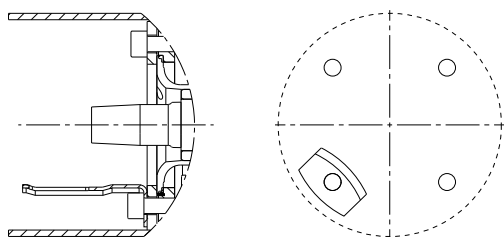

Fig. 13 Bracket for 7.5 kN thrust bearing
4. Fit the upthrust ring, pos. 2a, on the D-end of the rotor, pos. 2.
6. Tighten the two screws, pos. 22, holding the bracket. By doing so, the rotor is being pushed back but the upthrust ring will stay fixed in the correct position inside the stator housing.
8. Insert the radial bearing, pos. 4, into the stator housing.
9. Insert the clamping flange, pos. 7a. Make sure that the holes of the clamping flange are aligned with the threaded holes in the stator housing.
10. Insert the stop for bearing bracket(s), pos. 42.
11. Fasten the bracket(s) and clamping flange with the four screws, pos. 41. See section 4. *Tightening torques and lubricants*. Depending on the size of the thrust bearing, there are different types and numbers of brackets. See figs 13, 14 and 15.